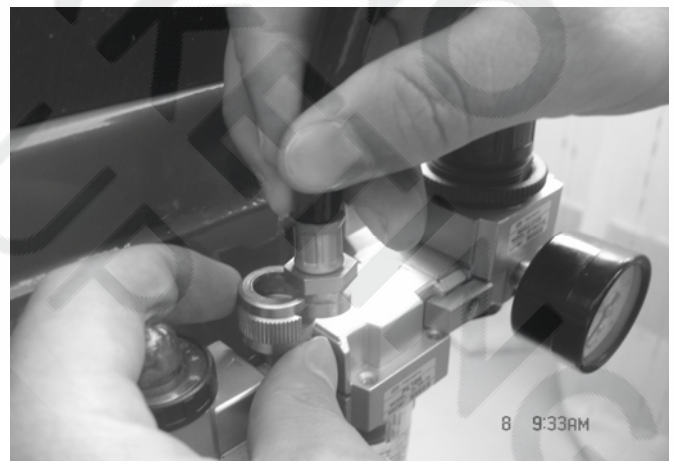

FIG 15
3.3.3 Connect the inflation gun: Plug the inflation gun connect into the slot of the open nut ( FIG15) and tight the open nut and then connect air supply.